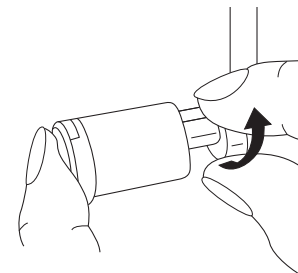

Fig. 100
2. Adjust the upper blade ⑬ into the rest position (Fig. 100).